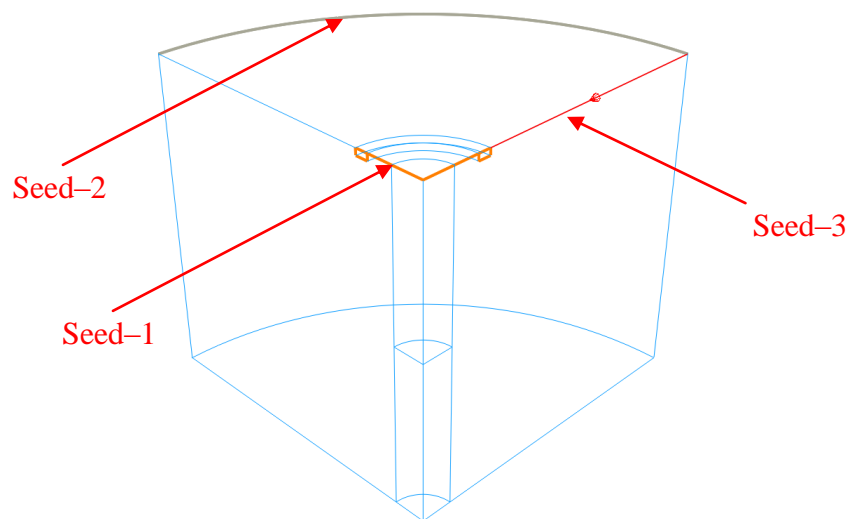

Figure W1–6 Edges with different seed values.
- iii. In the viewport, select the surface that corresponds to the cylindrical surface of the rod as shown in Figure W1–5 and click **Create Partition** in the prompt area.